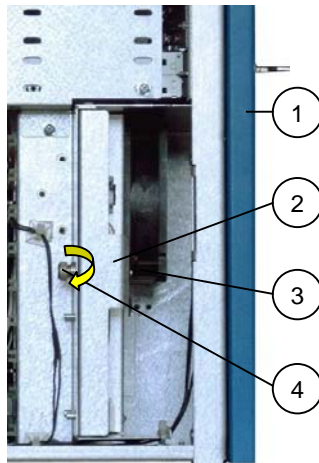

Fig. 24: KISS Short with fan slide-in module
2. Loosen the captive knurled screw (*fig. 24, pos. 4*). Use the handle (*fig. 24, 24a, pos. 2*) of the fan slide-in module and pull it out from the fan case (*fig. 24c, pos. 9*).
Legend for figures: 24, 24a, 24b and 24c